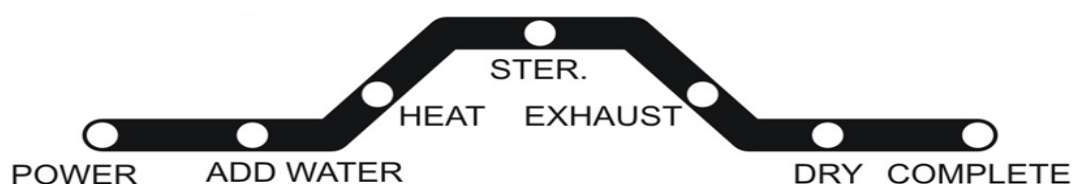

Figure 42
- A. Press the START button , the setting temperature, duration, and dry time displayed two times on the three-digit display, and then the sterilizer will automatically run through the selected program. The current progress of the sterilization cycle is indicated by the illuminated LED on the Process Status Indicator. (Figure 42)